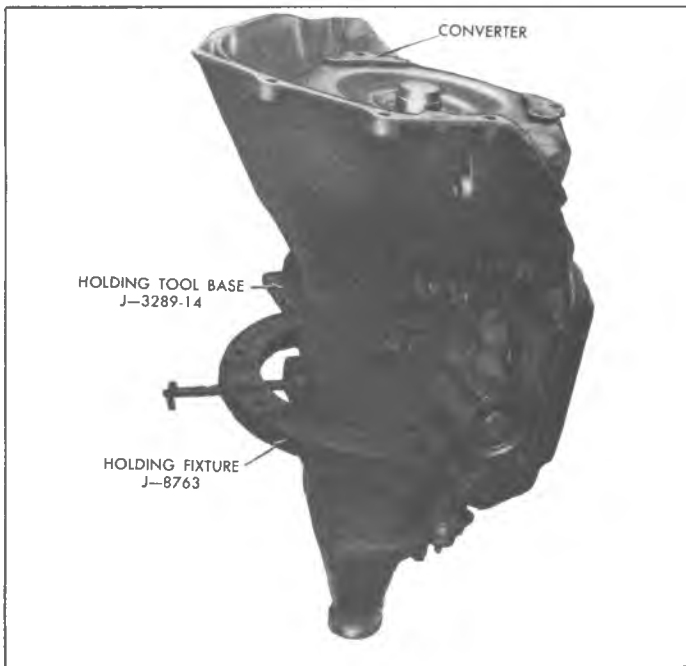

Fig. 2N--Transmission in Holding Fixture
1. Install Holding Fixture J-8763-02 on transmission and place into Holding Tool base J-3289-20 with converter facing up (fig. 2N).